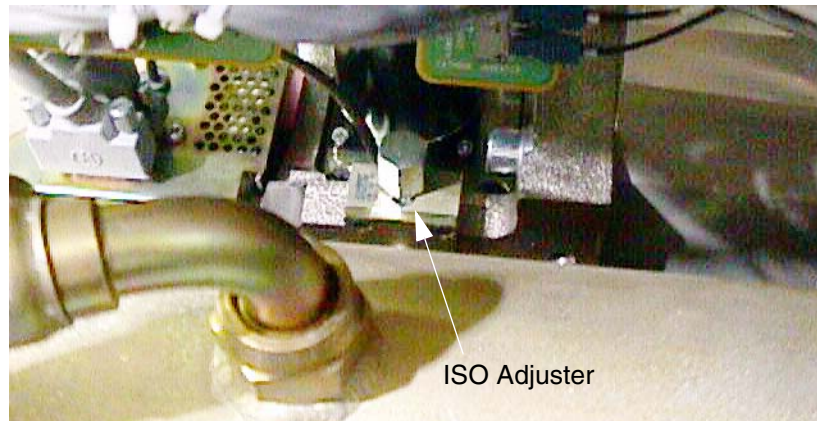

Figure 42 - ISO Alignment Adjuster
- 9.) Adjust the tube UP / DOWN as indicated by the calculation. The adjustment bolt is located on the top of the tube - Please see Figure 42.